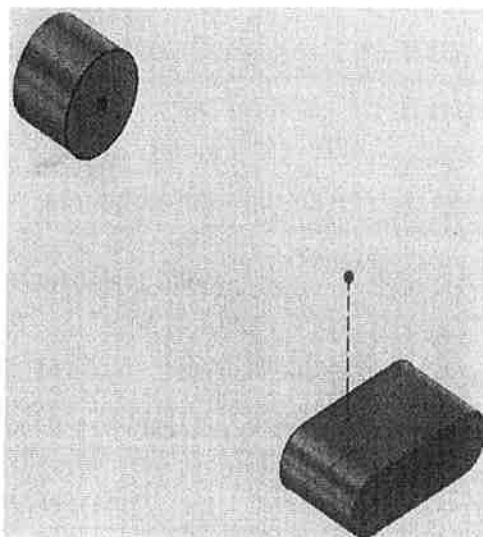

Figure 12-18
3. The model displays as shown in Figure 12-18. You will eventually select existing faces as the profiles for the loft, but you must first create a curve that can be used as the centerline reference.